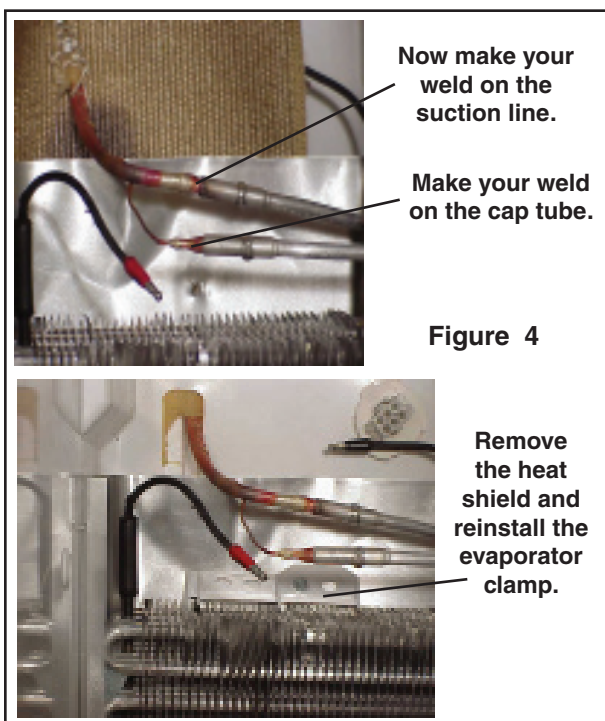

Figure 4
15. Push evaporator back in place and reinstall plastic clamp at top. (See Figure 4.)
13. The one piece cover can now be installed over heat exchanger. Place open end of cover with top of compressor compartment opening. Attach cover to back of cabinet using screws provided. There is no need to predrill holes as the screws are self cutting. (See Figure 4.)